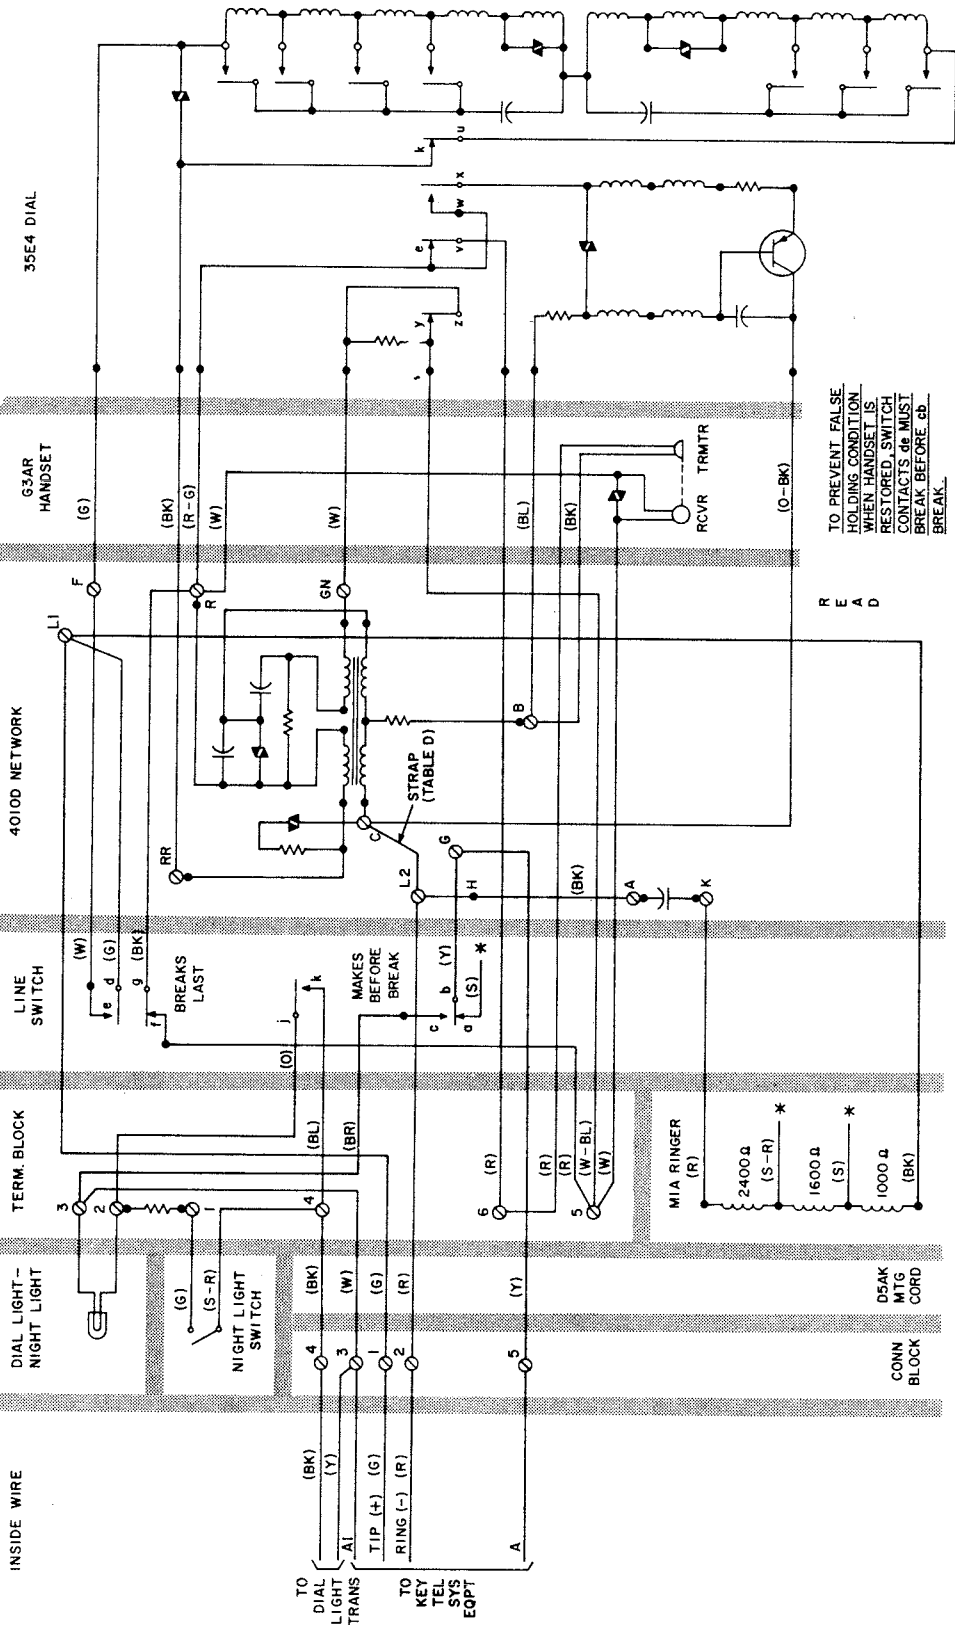

Fig. 2 — 2702B Telephone Set, Wired For Use With 1A1 or 1A2 Key Telephone System
1. TO MODIFY 2702B TELEPHONE SET AS SHOWN IN FIG. 2, REWIRE THE SET ACCORDING TO TABLE D.